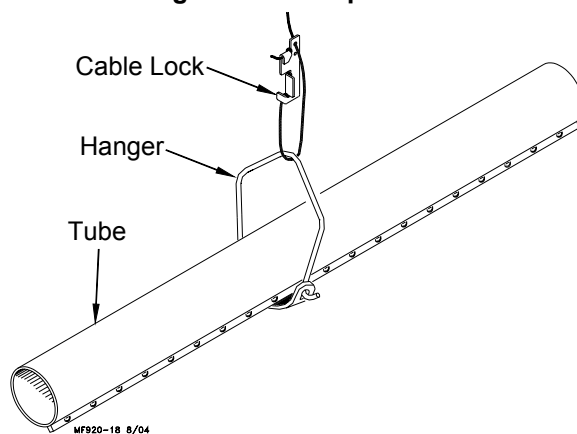

Figure 36. Hanger Installation
5. Install the Hangers on the feeder tube at 8' (2.4 m) spacings determined by the suspension drop lines. **Figure 36** shows the proper installation of the Hanger Assembly. Make sure the outlet drop hole is downward when the Hangers are installed, otherwise feed will not be allowed to drop into the feeder pan.